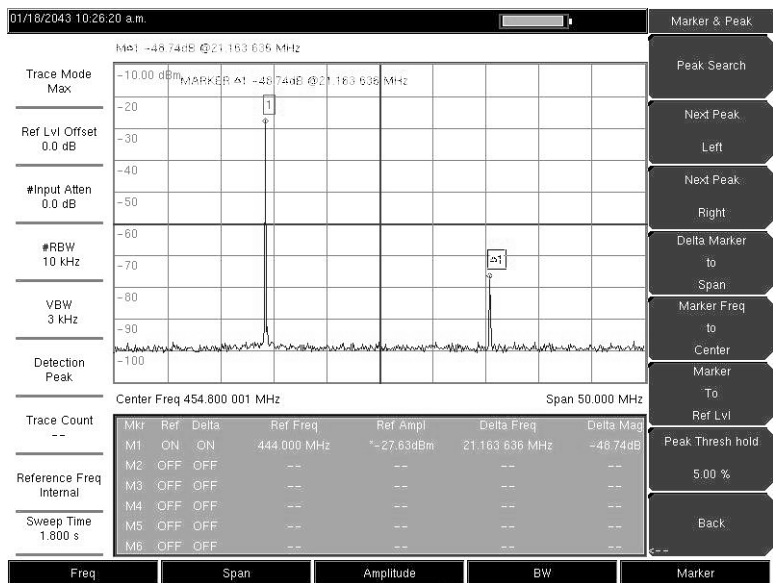

Figure 3-4. Simulated Out-of-Band Spurious Emission Measurement
10. Repeat 8. and 9. for the remaining spurs. Use either Marker 1 again, or choose another marker. Figure 3-4 shows a simulated out-of-band spurious signal 21.000 MHz from the carrier using a delta marker.